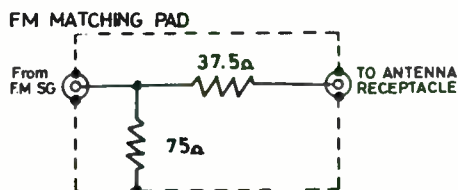

Fig. 4
- (a) Connect the output of the sweep generator to ANT receptacle through a matchig pad shown in Fig. 4, and vertical axis input of the oscilloscope to TP-201 (FM discriminator output).